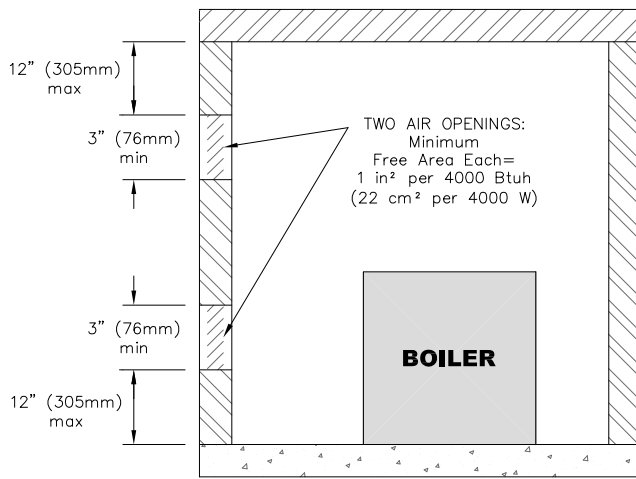
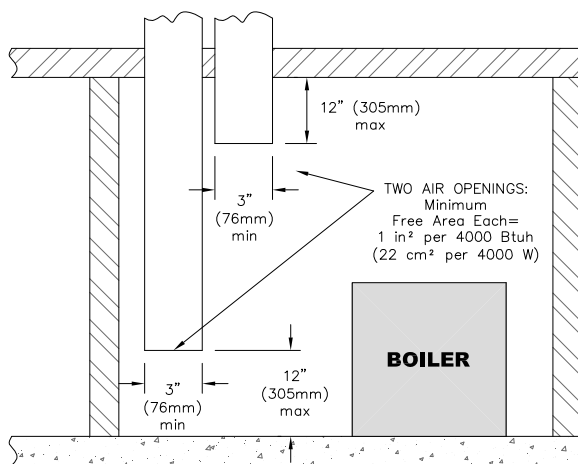

Figure 1.5: Air Openings – All Air Directly from Outdoors
Figure 1.6: Air Openings – All Air from Outdoors through Vertical Ducts
i. Where communicating directly or through vertical ducts with the outdoors each opening shall have a minimum free area of 1 in² per 4000 Btu/hr (22 cm² per 4000 W) of total input rating for all equipment in the space. See Figure 1.5 for openings directly communicating with the outdoors or Figure 1.6 for openings connected by ducts to the outdoors.